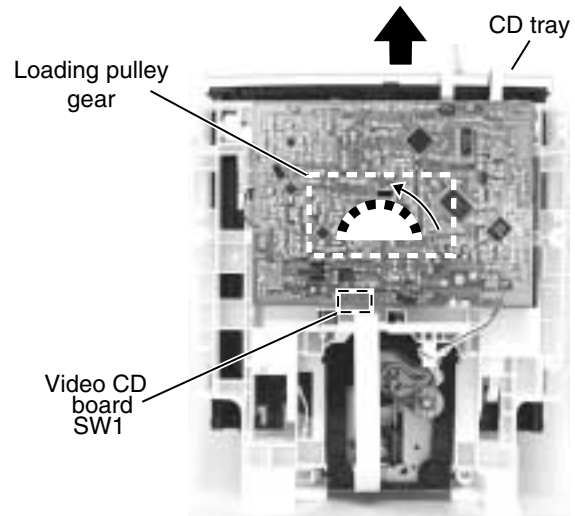

Fig.1
■ Removing the CD tray (See Fig.1 to 3)